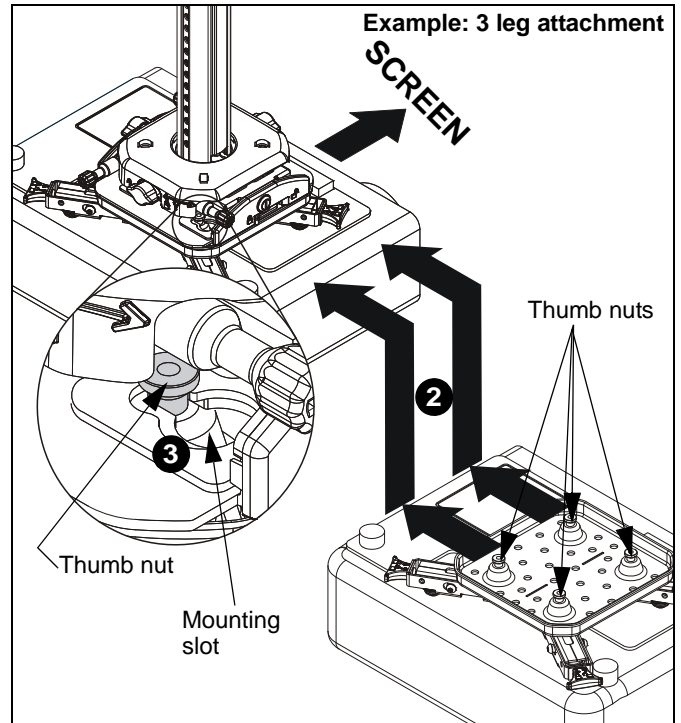

Figure 21
1. Orient projector with interface bracket so that the projector mount lock appears on the left side of the assembly (when viewed from screen). (See Figure 21)
3. Slide projector with interface bracket into mounting slots in mount base until thumb nuts are seated in the narrow portion of mounting slots against the opposite side of mounting slots. (See Figure 21)